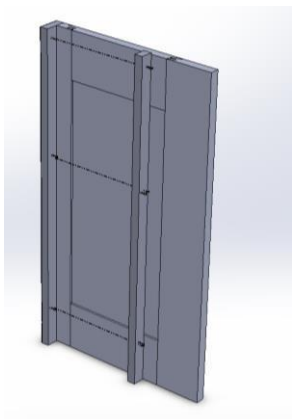

Fig. 36
- using screws 4x30, connect the vertical plate and side spacer (Fig. 36)